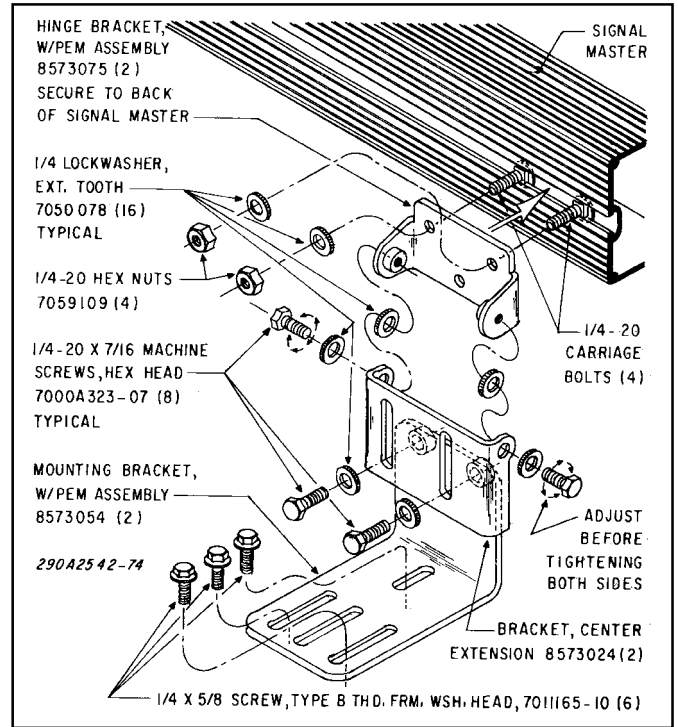

Figure 1.
See figure 1. Secure the hinge brackets to the directional signal using 1/4-20 nuts and external tooth lockwashers.
2. Assemble the extension brackets to the hinge brackets using 1/4-20 x 7/16" hex head machine screws and external tooth lockwashers as shown in figure 1. Ensure that a lockwasher is installed between the brackets on each side as shown. Do not tighten the screws at this time.